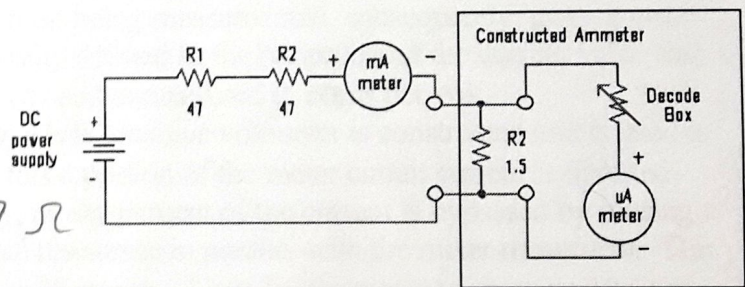

Figure 2
- Connect the circuit shown in Figure 2, but leave the power supply turned off.